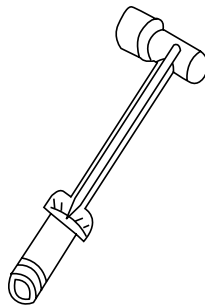

Fig 15. Torque Wrench
1. Start all wheel lug nuts by hand using a Torque Wrench (Figure 15).